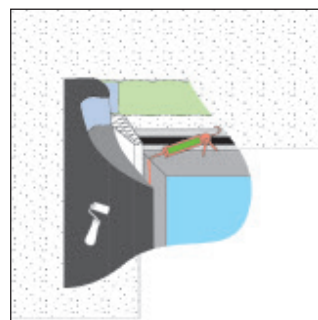

Fig 3: Application of OT015 Paste Adhesive
- To achieve a quicker, easier and economical application, we recommend using OT015 adhesive when bonding to non-porous materials (see Fig. 3). In the case of heavier (wider) strips, the membrane may need to be fixed temporarily until sufficient adhesive loading capacity is achieved.